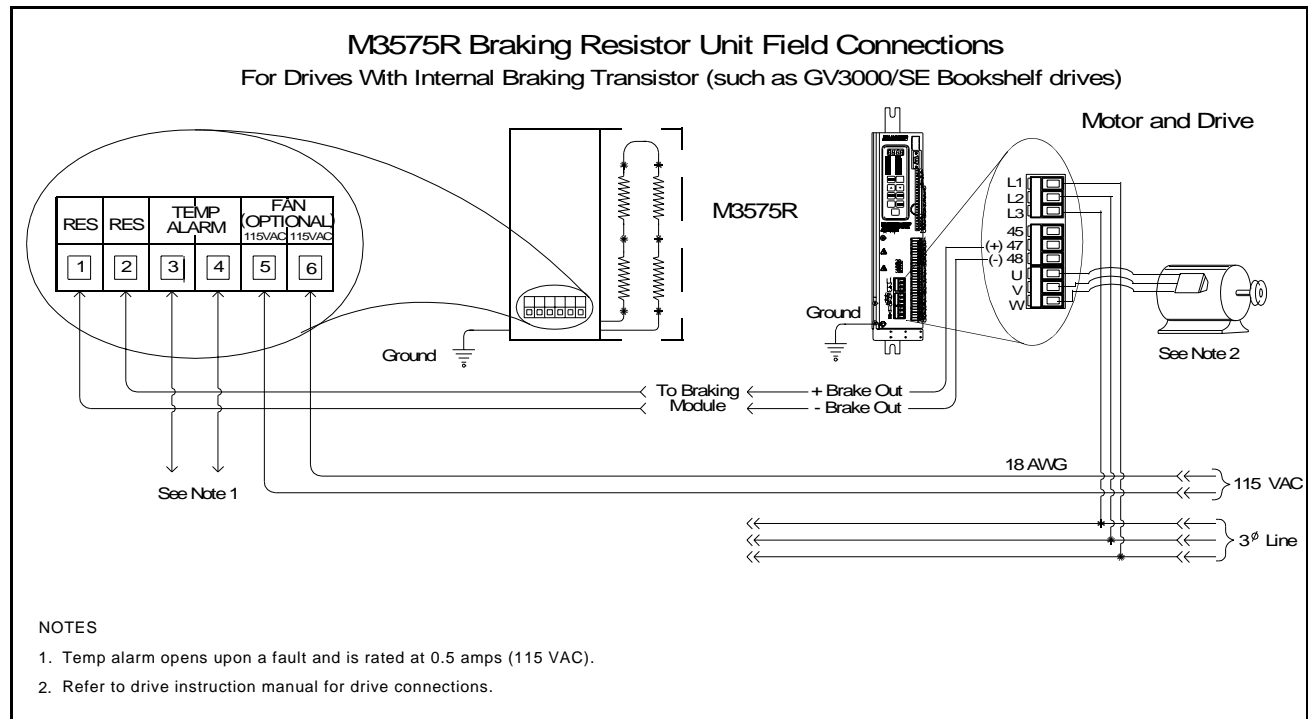

Figure 4 – Wall-Mounted Braking Resistor Unit Field Connections
- Step 6. Install the wiring between the drive and the Braking Unit. See figures 4, 5, and 8. Use wire that is rated at a minimum of 300 volts for 230 VAC Braking Units and 600 volts for 460 VAC Braking Units.